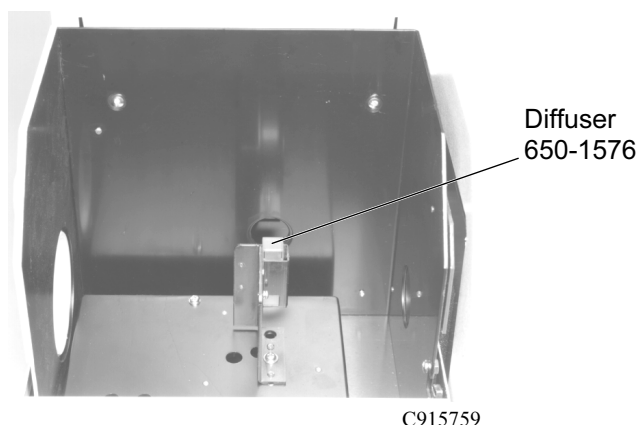

Fig. F-4 Setting of Diffuser
- (b) Set the diffuser into the cell holder in the sample compartment. (See Fig. F-4).